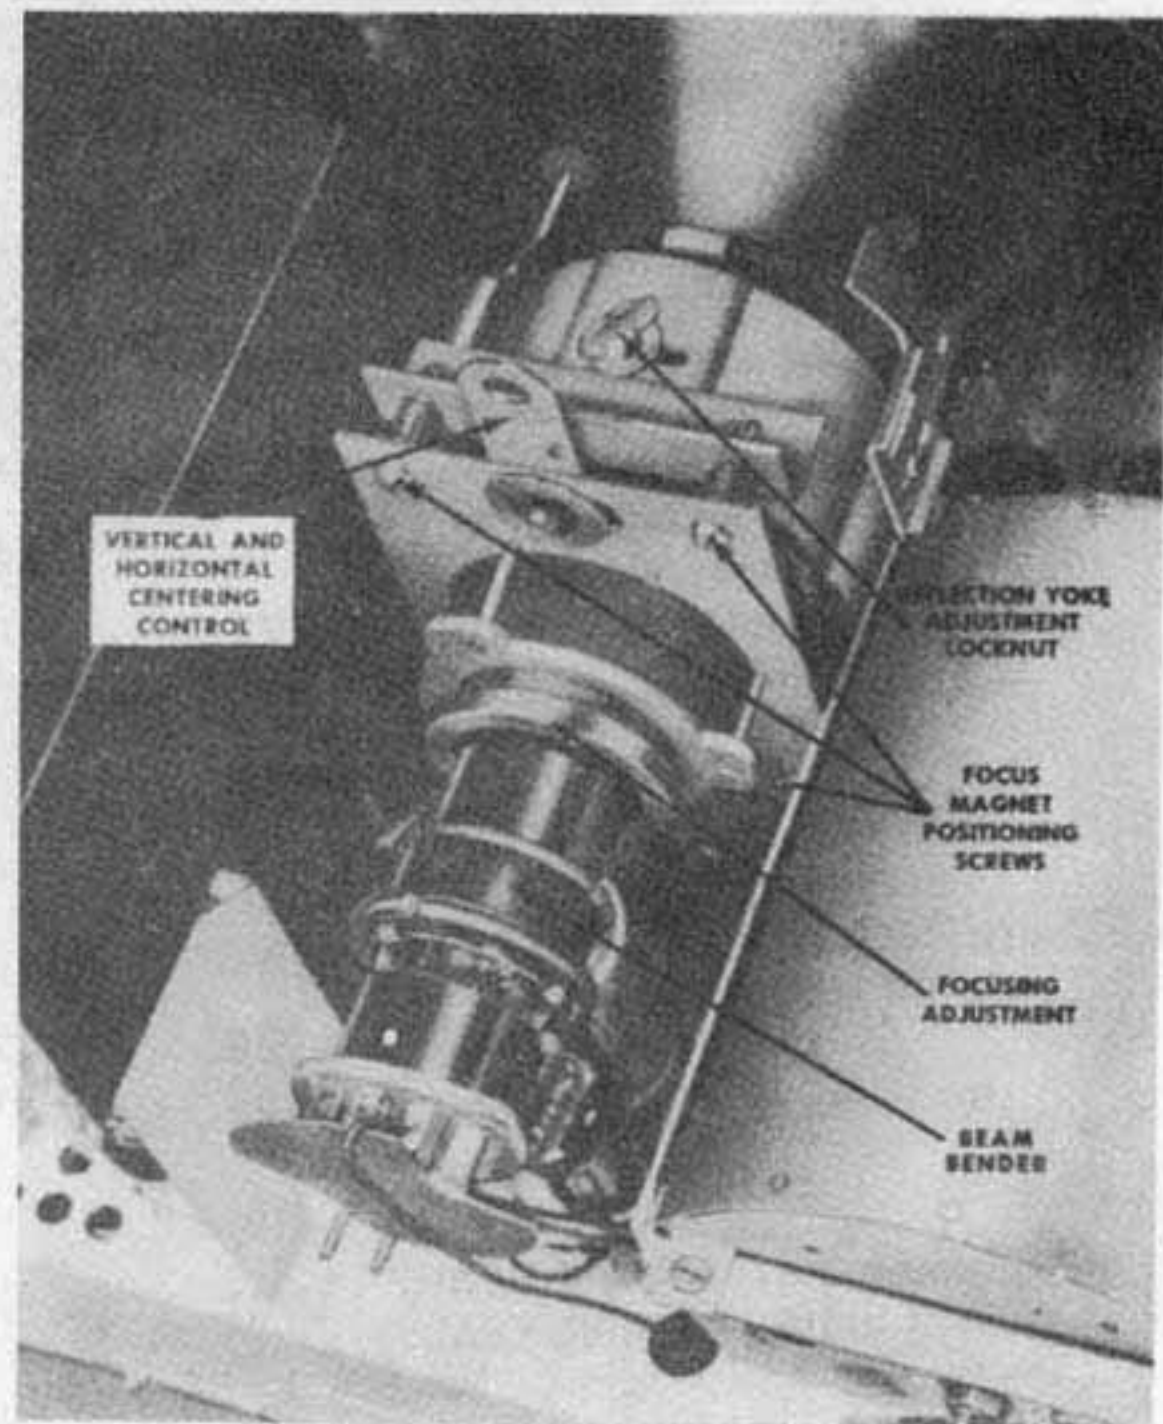

Fig. 4 Adjustments on Neck of Picture Tube.
1. Loosen the deflection yoke adjustment locknut (See Fig. 4) and move the yoke as far as possible toward the front of the picture tube. Check for picture tilt and tighten locknut.